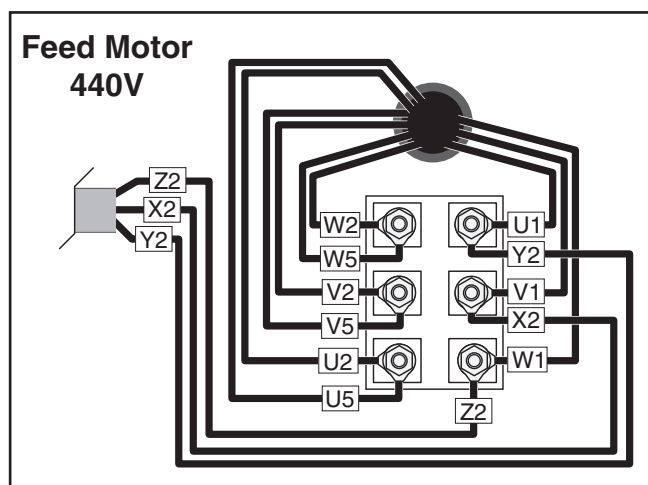

Figure 6. Feed motor wired for 440V.
7. Wire feed motor as shown in **Figure 6**.
—If motor rotation is incorrect, disconnect machine from power and swap wire connections X2 and Y2 (see **Figure 6**), then repeat **Step 9**.